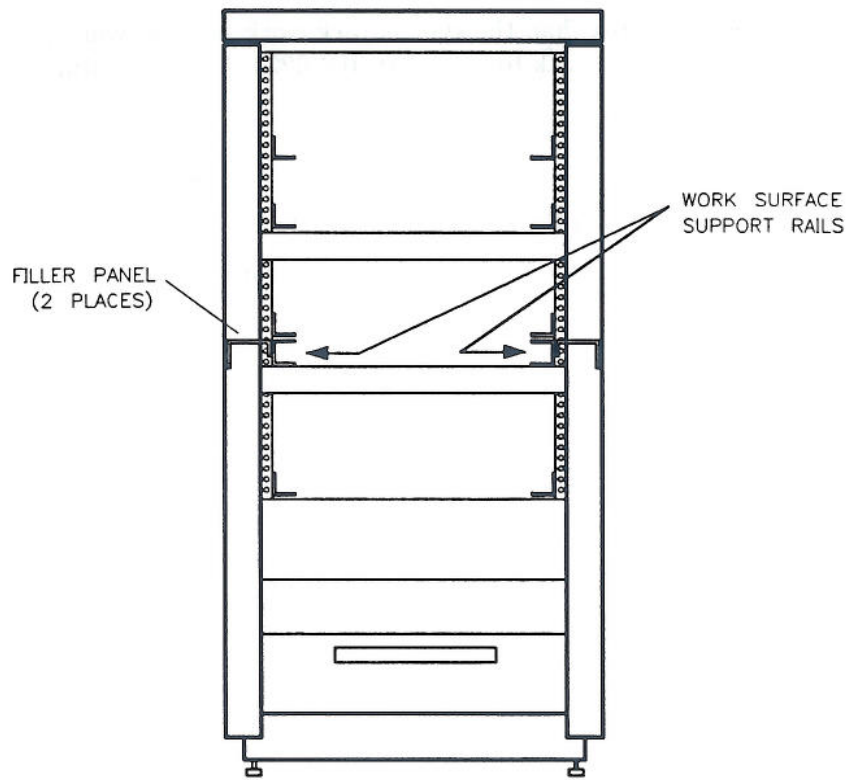

Figure 3-1. Mechanical Assembly
1. Attach the right and left filler panels to the outside of the support rails (see Figure 3-1):